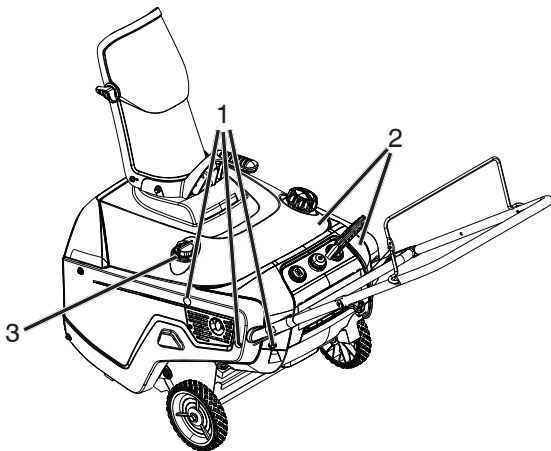

Figure 27
4. Remove the six screws that secure the shroud assembly (Figure 27).
15. Install the shroud with the screws removed in step 4 (Figure 27).